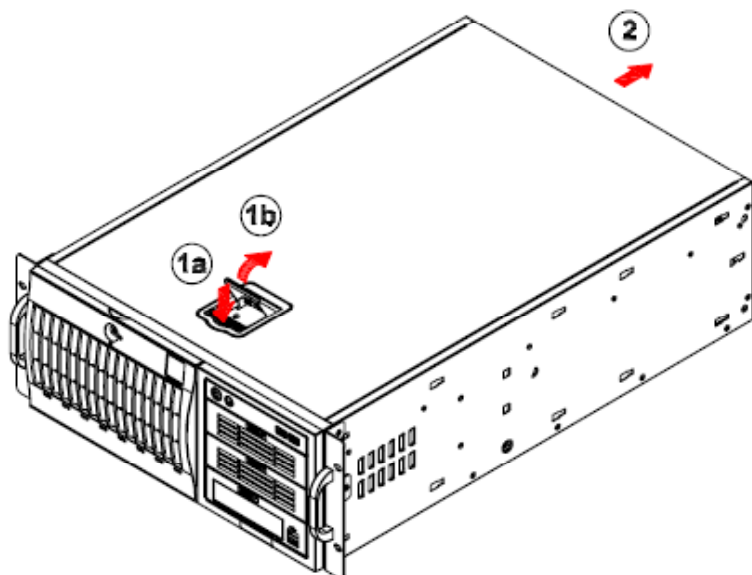

Figure 2-5. Accessing the Inside of the System
2. There are two screws that secure the cover to the chassis - remove these first. Locate the latch on the top (side if tower) of the chassis - depress where it says “push” then lift the latch to release the cover. You can then lift the cover from the chassis to gain full access to the inside of the server. See Figure 2-5.